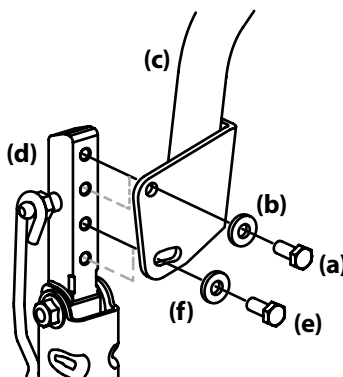

Figure 4-4
- While supporting the drive control lever to keep it from falling, remove the hex screw (e) and flat washer (f) from the bottom of the drive control lever (c) and lower arm (d). Refer to Figure 4-4.
- If not already loose, loosen the hex screw (e) and rotate the control lever either forward or rearward to the desired position. See Figure 4-4.